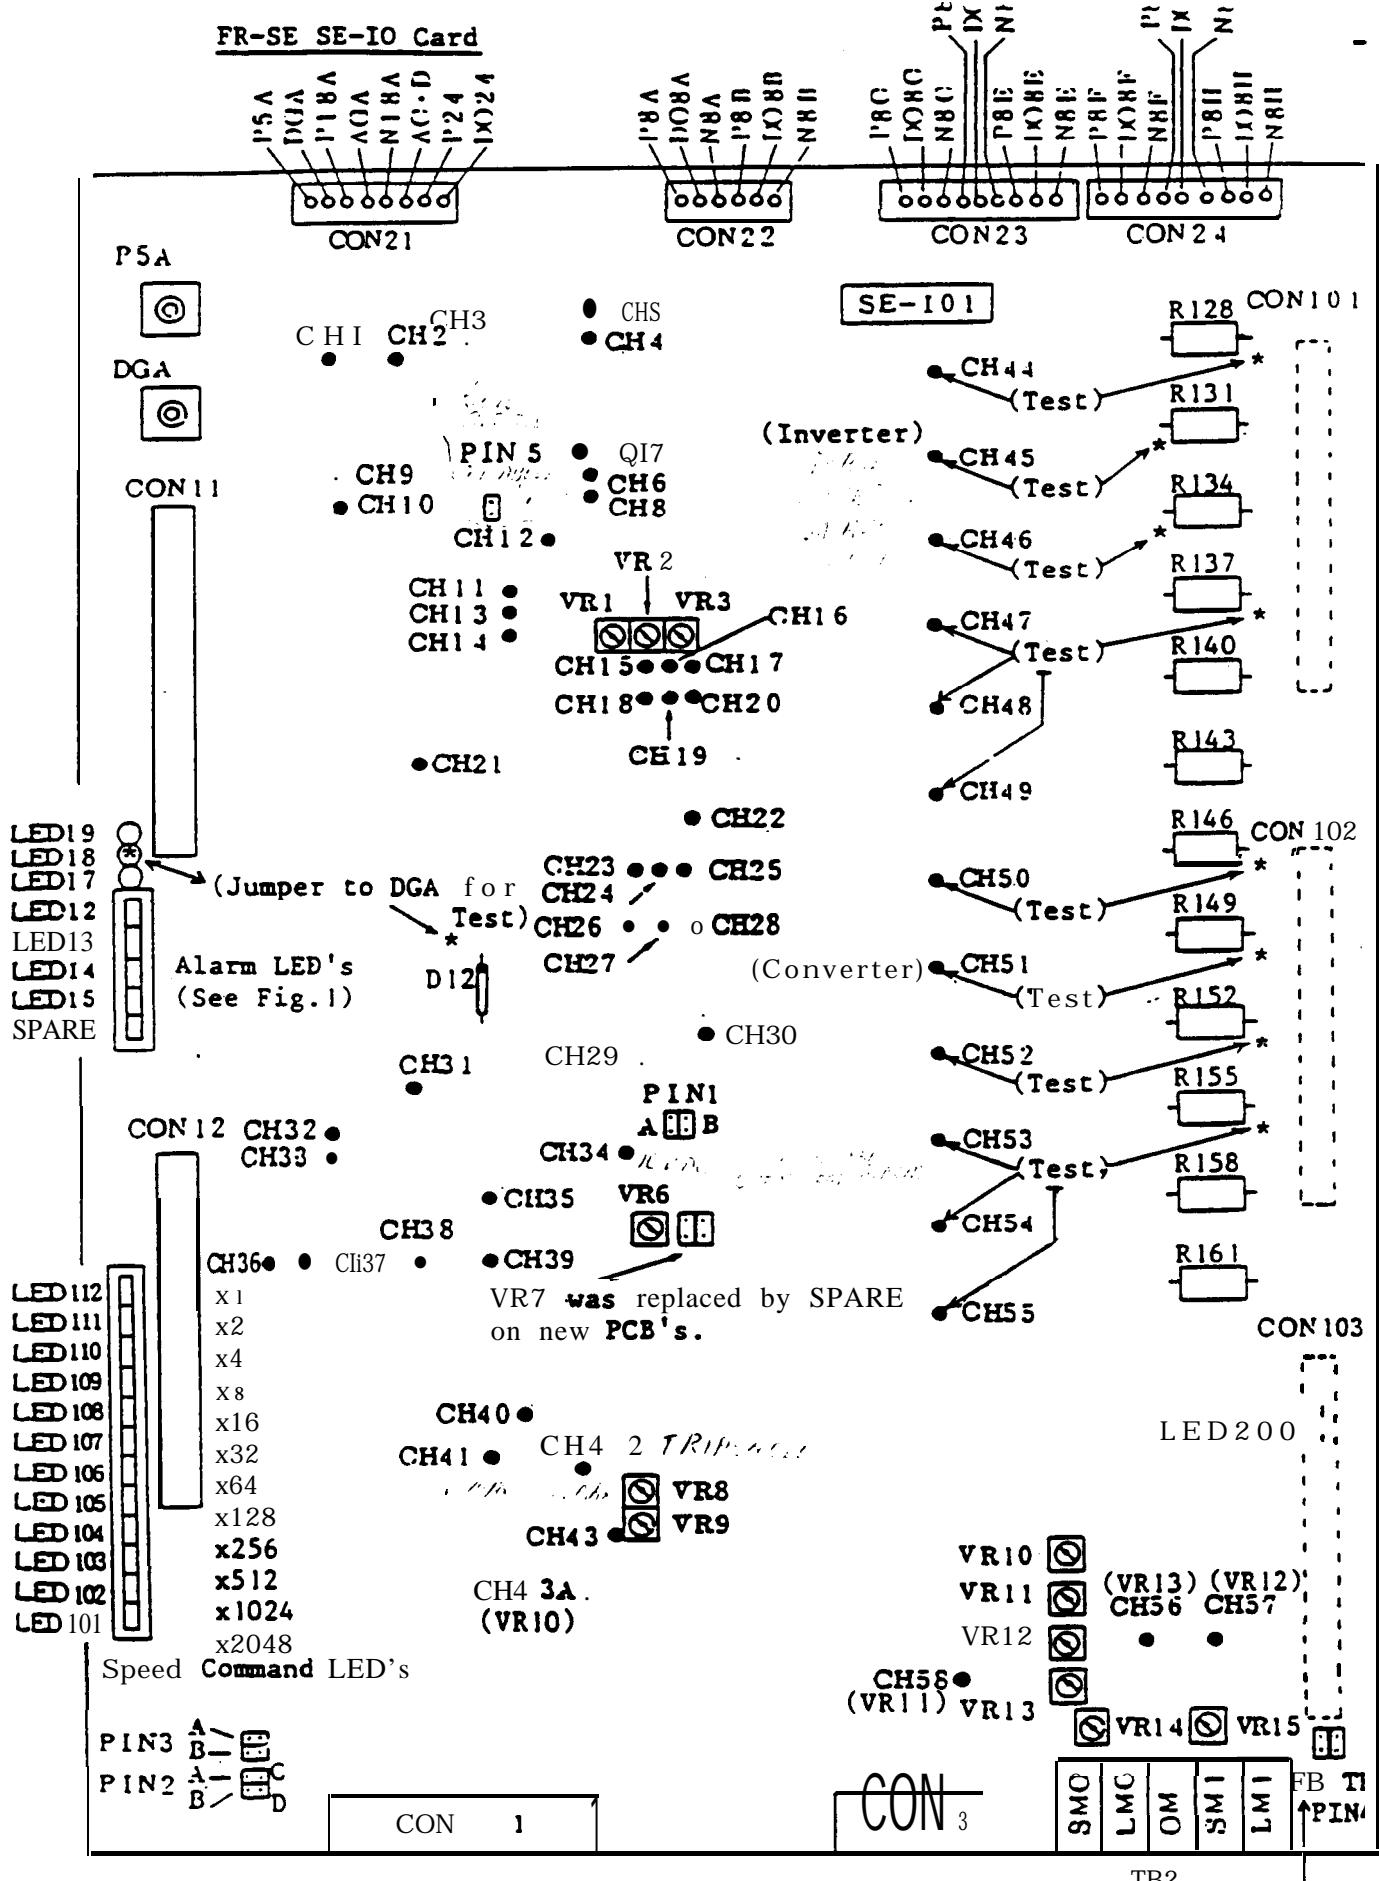

Figure 7
Refer to Figure 7 for location. (*) Factory set, don't change.
(5) SE-IO Card: Set shorting pins (PIN1 through PINS) the same as the original card. Do not make any adjustments other than those specified in the instructions. Refer to Fig. 7.
(6) Optional: Test base driver waveforms before restoring full power (CB1 OFF). This test should be performed if output transistors were damaged and replaced or suspected of being damaged. Refer also to Testing Output Transistors, Diode, and Capacitor. See Procedure for Checking Base Driver Waveforms.
(7) After installing FR-SE hinge panel please readjust the offsets for the DC current transformers. Refer to Current Transformer Offset Adjustment Procedure.
(8) Confirm full speed range in all gears FWD and REV.
(9) Confirm alignment of spindle at orient in machines that require it for mechanical operations such as ATC. This may involve measuring the spindle orient position relative to axis movement as specified by the machine manufacturer. Confirm orientation in each gear. (Including ATC.)
Disable **CB1** breaker trip alarm by inserting jumper (**FB**) on Pin 4 of SE-IO PCS. This is located on the lower right corner of the PCB and to the right of the **TB2 screw** terminal. Refer to lower right corner of Figure 7. A SPARE jumper strap can usually be found on the SE-CPU or SE-IO printed circuit boards.
(2) Adjust all **DCTC offsets** to Ov **+/-5mv** (Note: **+/-10mv** is acceptable). Refer to bottom of Fig. 7 for location of adjustments and check points.